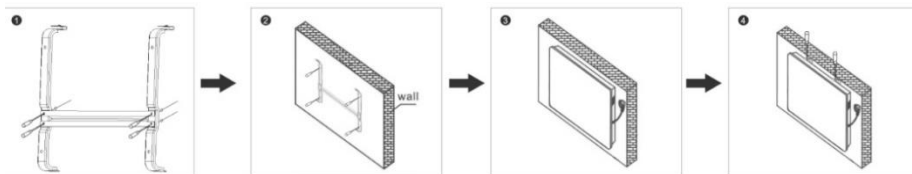

Fig. 2 Wall mounting
3. Mount the bracket to the wall using the supplied wall mount kit. Drill holes of the required diameter according to the fixing marks, insert the dowels, affix the bracket and tighten the screws, thereby securing the bracket to the wall (**Fig. 2, p. 1,2**).
4. Hang the device onto the bracket by aligning the bracket with the holes on the back of the device (**Fig. 2, p. 3**).
5. Tighten the screws on the top of the bracket to fix the convector (**Fig. 2, p. 4**).